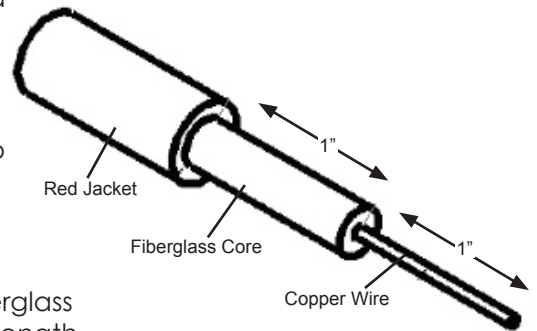

Fig. 1
2. Set drag brake to highest amount of drag (Fig. 1).
(Fig. 1)
2. Once jacket is removed, use pipe cutter again to score a mark around fiberglass core approximately 1" from edge of jacket. Use sharp knife to carefully strip away 1" of fiberglass core closest to rod end to expose copper wire. Be careful not to damage wire. The 1" portion of rod closest to jacket will remain intact (Fig. 1).